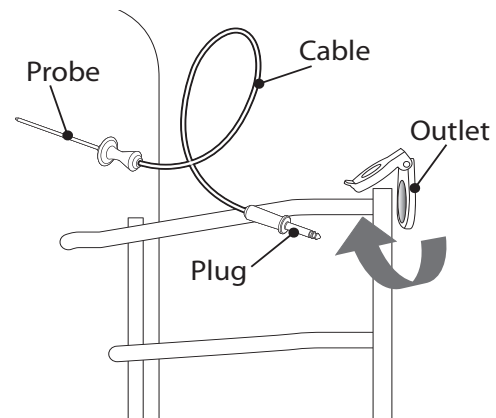

Figure 28: Meat Probe
1. In the large oven, or in the small oven on select models, flip the cap of the outlet up (Figure 28).